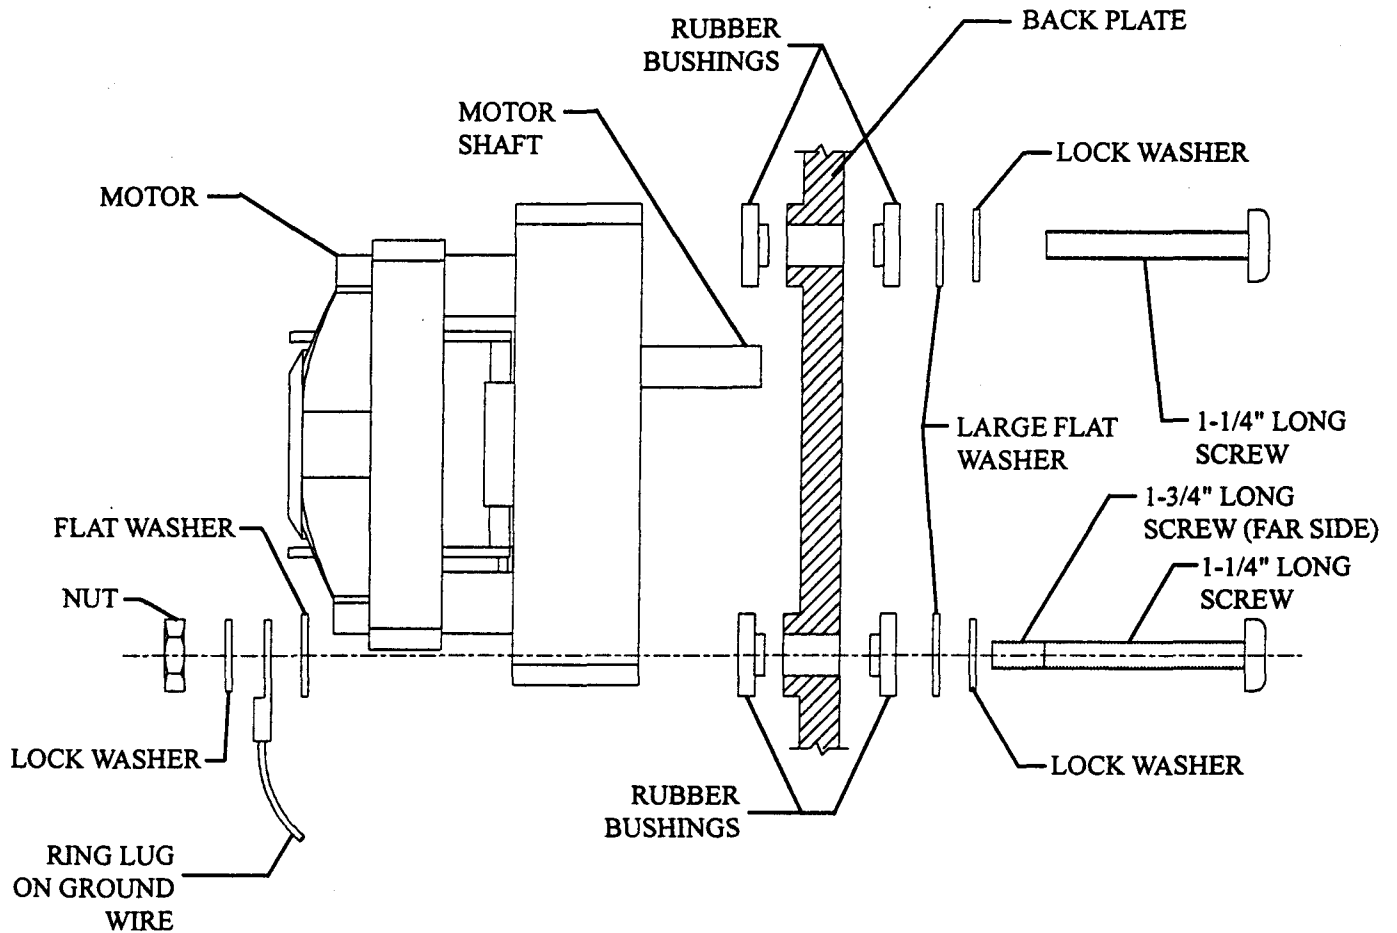

FIG 3
4. Remove old motor (**NOTE THE POSITION OF MOUNTING HOLES FOR PROPER MOTOR ORIENTATION**) and replace with new motor using hardware supplied in this kit, as shown in Fig.'s 1 & 2. Attach the green/yellow ground lead to the longer of the four screws supplied using the nut and washers as shown in Fig. 3.